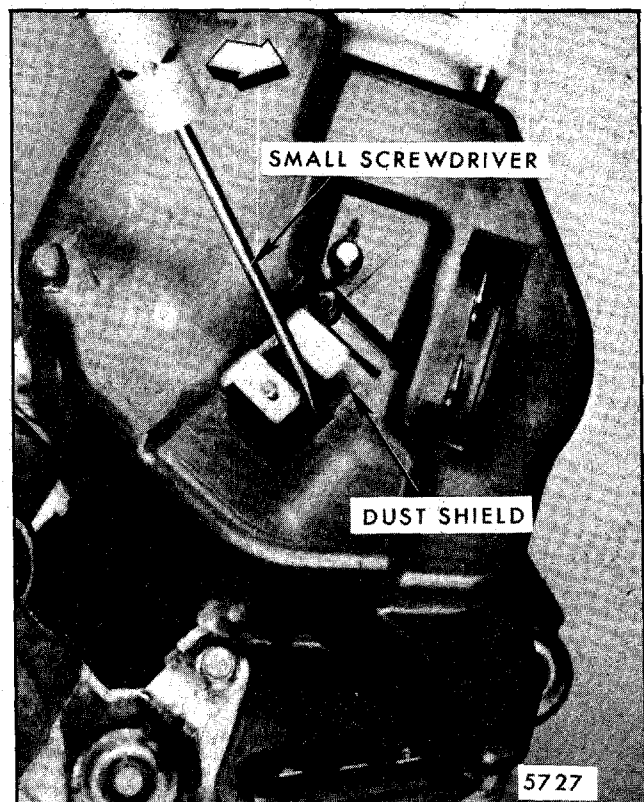

Fig. 2-135-Washer Pump Cover Removal
2. Remove plastic tab from terminal 6 and 7 opening and pull plastic cover off mounting post (Fig. 2-135).